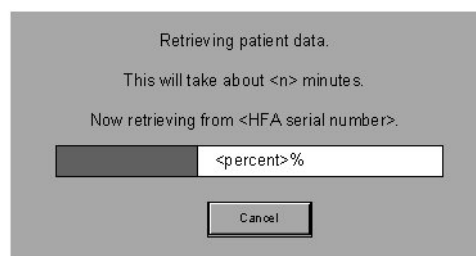

Figure 14.24 Data Retrieval Progress Indicator
- 5 Press PROCEED. The dialog shown in Figure 14.24 will appear to let you know how the retrieval is progressing.